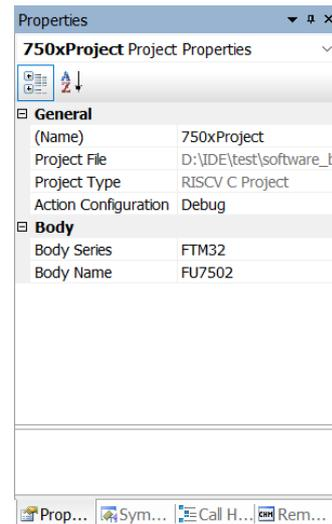

Figure 1-38
- General: as shown in Figure 1-38
- Content: as shown in Figure 1-38